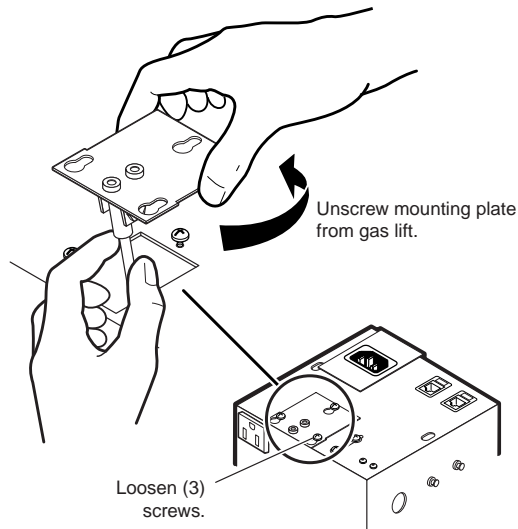

Figure 3-5 — Removing the gas lift mounting plate
2. Loosen the three Phillips head screws that secure the gas lift mounting plate in place (figure 3-5).
NOTE Figure 3-5 shows an HSA 200 model. Removing the gas lift mounting plate from an HSA 222 is an identical procedure.
3. Slide the gas lift mounting plate toward the center of the enclosure, releasing the mounting plate (figure 3-5).
4. Turn the gas lift mounting plate counterclockwise until the plate comes free from the shaft of the gas lift (figure 3-5).